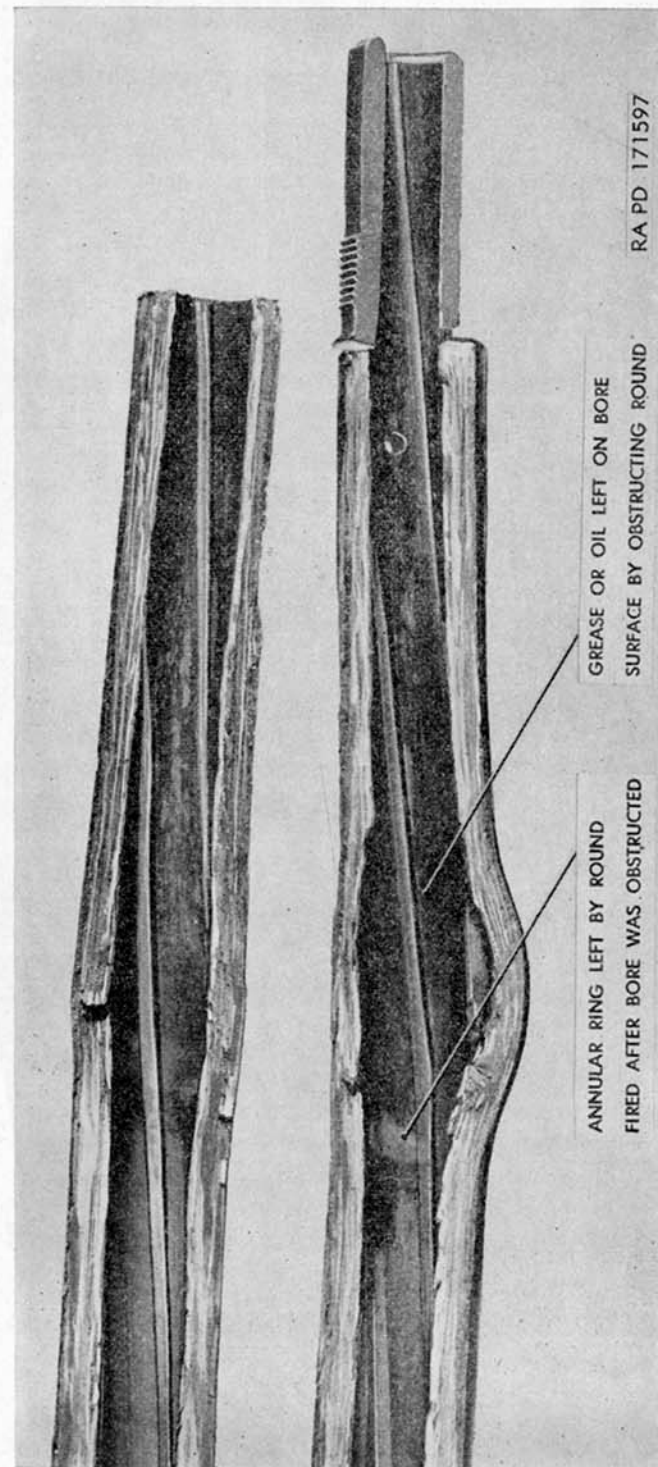

Figure 13. Cal..30 rifle M1 bore damaged by unexpelled bullet.
- (1) Grease, unexpelled bullets, cleaning materials, and other foreign matter in the bore will cause malfunctions that usually result in damage to the rifle and injury to the firer (figs. 13 and 14). Examination of one rifle that did not eject properly revealed that the barrel was split back from the muzzle about three-quarters of an inch, the lock
nut was split open, and the gas cylinder was moved forward about one-half inch, and that the damage was apparently caused by an obstruction in the bore. Figure 13 shows a section of the barrel of a cal..30 rifle M1 that was damaged by a bore obstruction. A defective cartridge had failed to expel its bullet, and the lodged bullet obstructed the bore for the next round. Experience has shown that firing a ball cartridge through a bore that is obstructed by a bullet will burst the barrel unless the base of the obstructing bullet is less than 1 inch from the point of the chambered round.